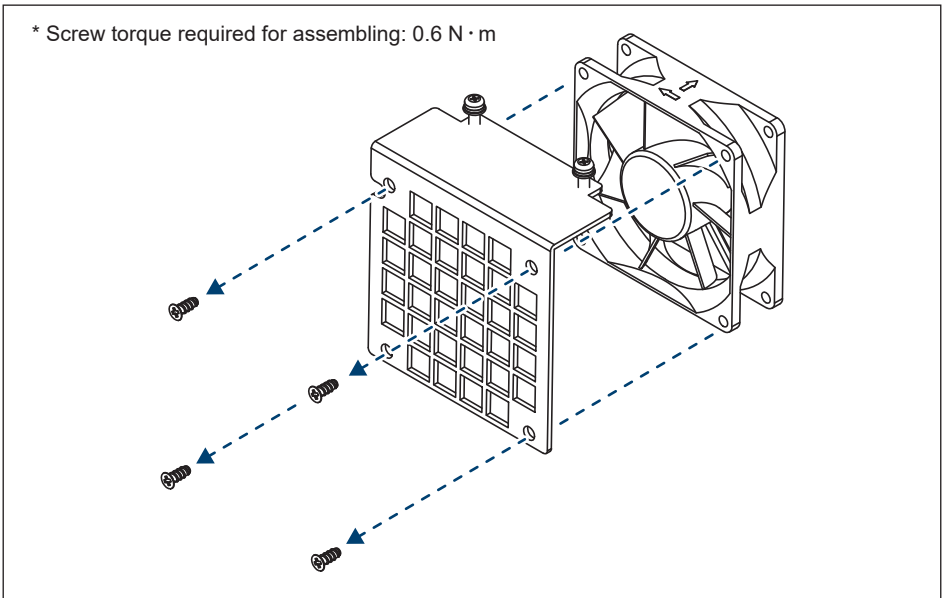

Figure 5-16: Replace with a new fan
- (4) Clean assembly or replace with a new fan. (shown in **Figure 5-16**)
- (5) Reassemble using a tightening torque of 0.8 N · m.